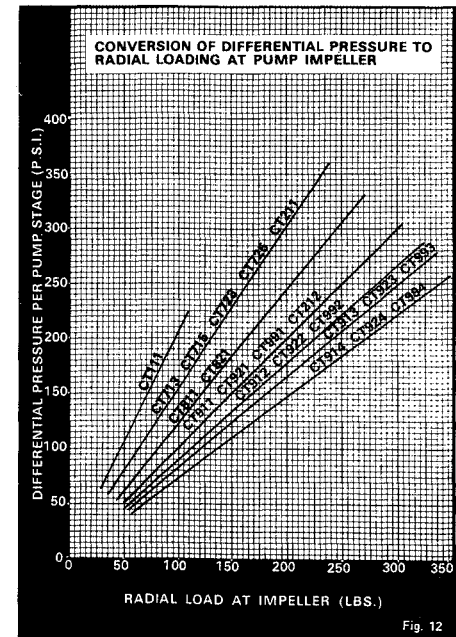

Fig. 12
2. From figure 12, determine radial load at impeller in pounds by reading across from differential pressure per pump stage to pump size and then down (divide differential pressure by 2 for two stage model 153 pumps). This value will be used for determining both inboard and radial bearing life in hours and shaft deflection at impeller.
Deflection in models 153 and 154 are minimized by opposing the two pump discharges by 180° and thereby nearly balancing the resultant forces acting on the shaft. Radial load at the impeller in pounds can be obtained from figure 12 on page 75.